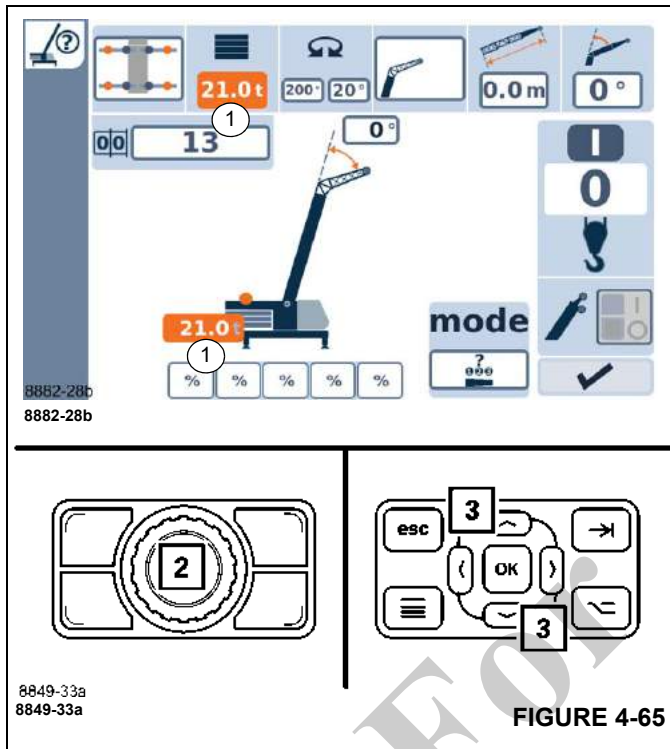

FIGURE 4-65
- Select and confirm the symbol (1), (Figure 4-65).
- Use the buttons (2), (Figure 4-65) or (3), (Figure 4-65) to select the required counterweight combination, e.g. 21.0 klb.